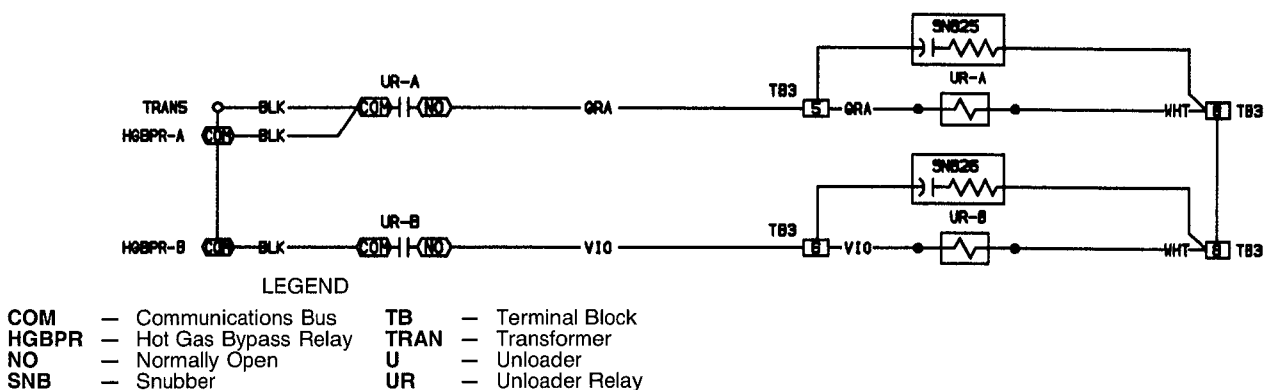

Fig. 24 — Flotronic™ II 115/230-V Unloader Wiring, 130 (50 Hz), 150-210 And Associated Modular Units
1. Install control wiring. The minimum wire size for installation is 16 AWG (American Wire Gage). Refer to Fig. 24 and 25 for proper wiring. Open the control box door. Locate unloader relays A and B (URA, URB) in place of the hot gas bypass relays as shown on the component arrangement diagram on the unit. Mount the relays with the field-supplied screws. Be careful not to damage the components and wiring in the area when mounting the relays.